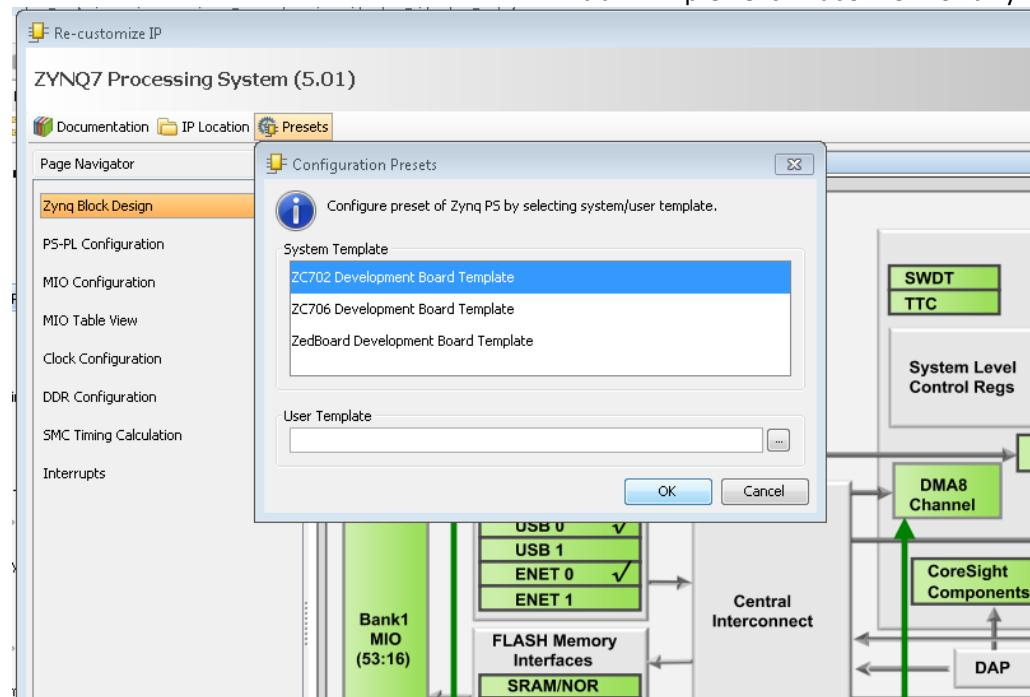

Figure 232 Configure the Zynq Processor
- a. Click on Presets icon, select ZC702 Development Board Template (Figure 232).